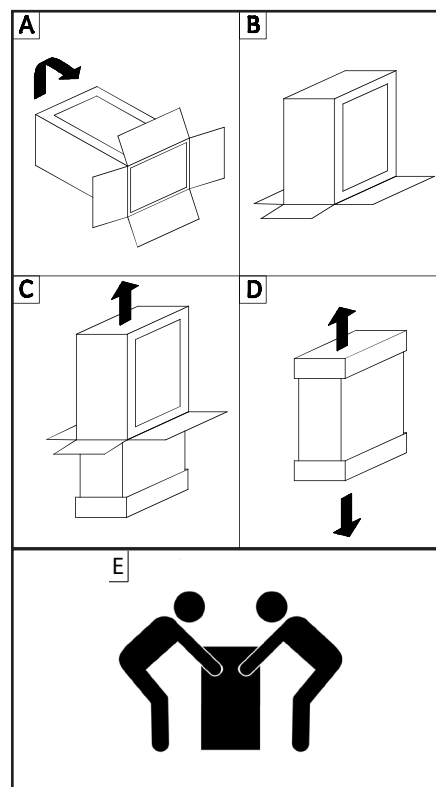

Figure 3.1 - Unpacking the Combi Boiler
- Place the packed appliance on the floor (see fig. 3.1) making sure that the unit is in its upright position. Open out the four flaps of the box.